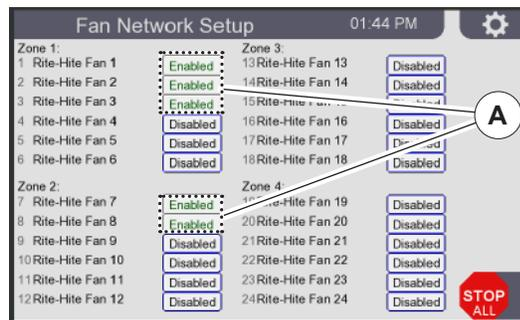

Figure 8
Network 1 is configured the same as (A) "Figure 8" (page 9).